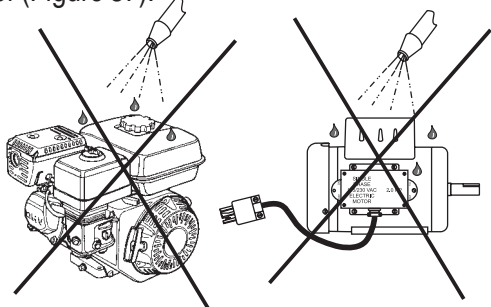

Figure 37. No Spraying of Water
6. **NEVER!** pour or spray water over the engine or electric motor (Figure 37).